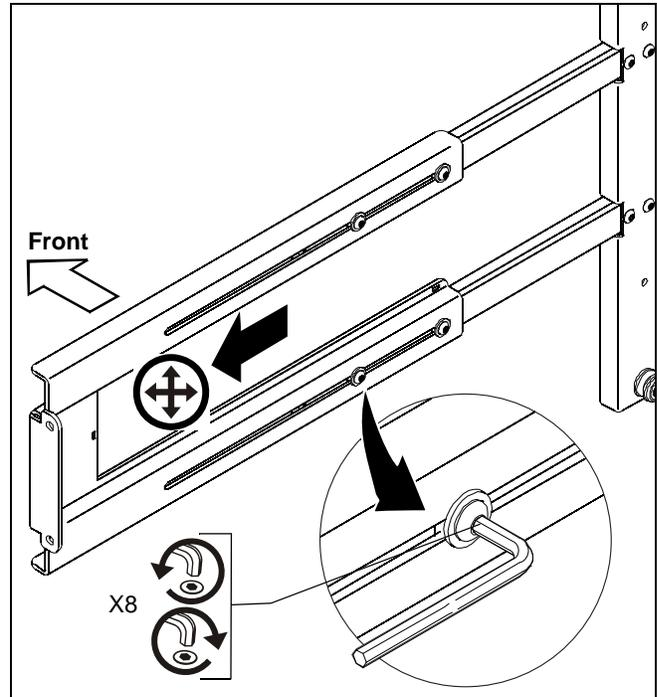
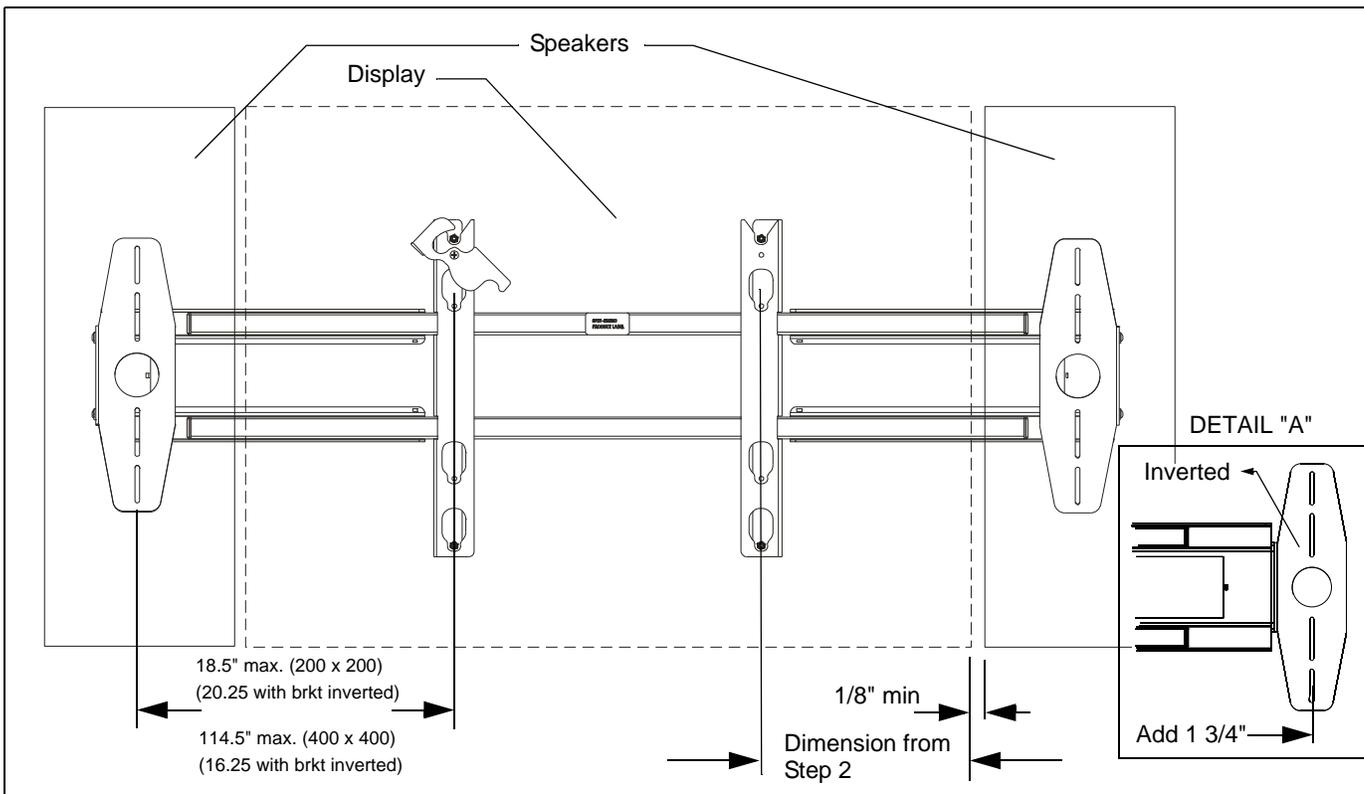

Figure 5
Figure 6
3. Loosen eight button head cap screws and slide speaker rails outward until required distance between speakers is obtained. (See Figure 5) and (See Figure 6)
NOTE: An additional 1 3/4" (each end) of speaker rail extension can be obtained by inverting the speaker mounting bracket as shown in DETAIL "A" in figure below. (See Figure 6)